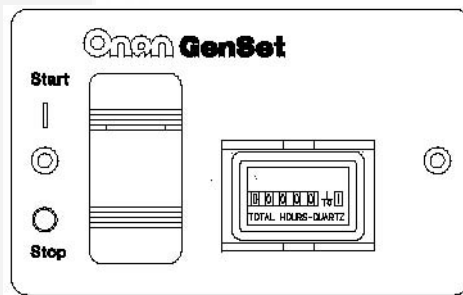

FIGURE 30. REMOTE SWITCH / HOUR METER
- Remote start/stop switch with status indicator light and hour meter (Figure 30).